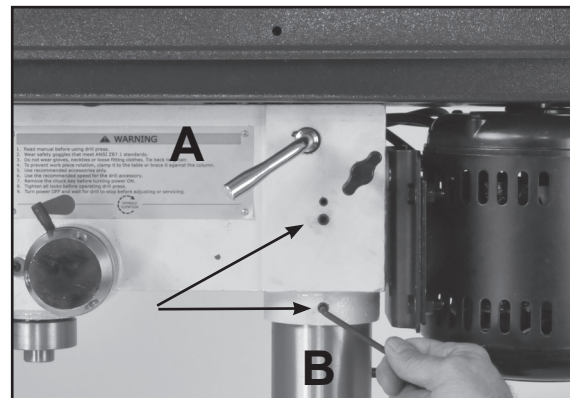

Figure 7
3. Tighten the drill press head (A-Fig. 7) to the column (B-Fig. 7) by tightening the two set screws on the right side of the head as shown.